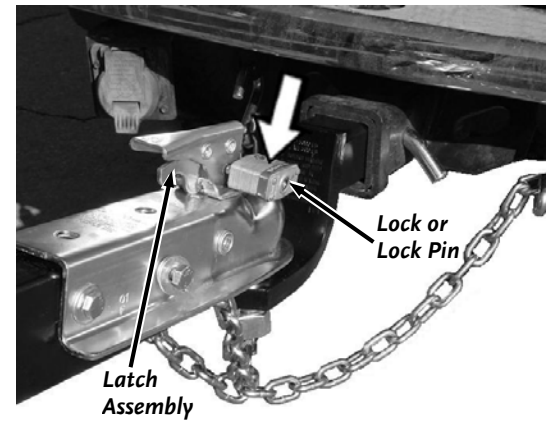

Figure 33
- For extra safety and security, you may want to purchase a Lock or Lock Pin to install into the Latch Assembly of the Tow-Hitch Package (**Figure 33**).